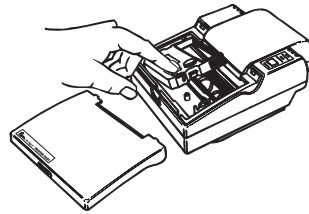

Figure 6. Removing the Ribbon Cartridge
2. If you are replacing an old ribbon, pull up on the lift tab on the right side of the cartridge (see Figure 6), remove the cartridge and discard it.